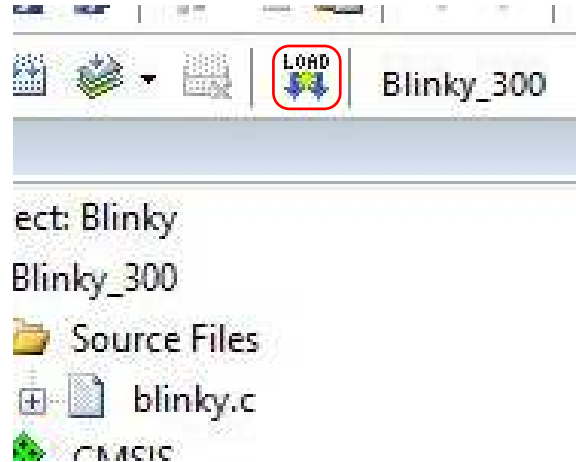

Figure 13. **Load** Button
10. To download the code to the EVAL-ADUCM300QSPZ board, click **Load** (see Figure 13).